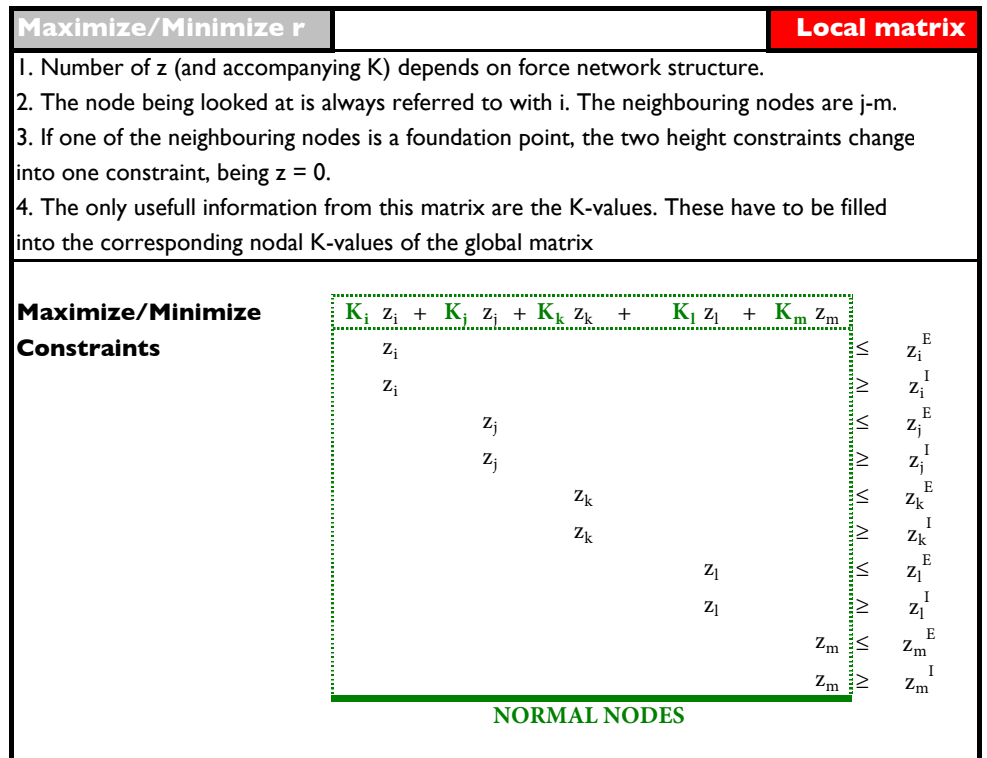

Figure C-1 - Local matrix to solve with the Simplex Method
1. Start with the matrix (Figure C-1) in which the objective function and boundary conditions are presented